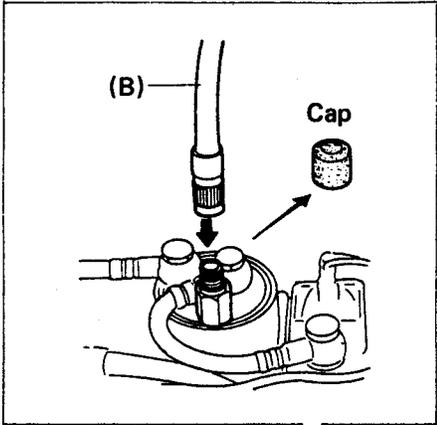

Fig. 4
8. Remove the cap and connect the air hose (B) to the place shown in the Fig. 4. The air hose is now ready to use.